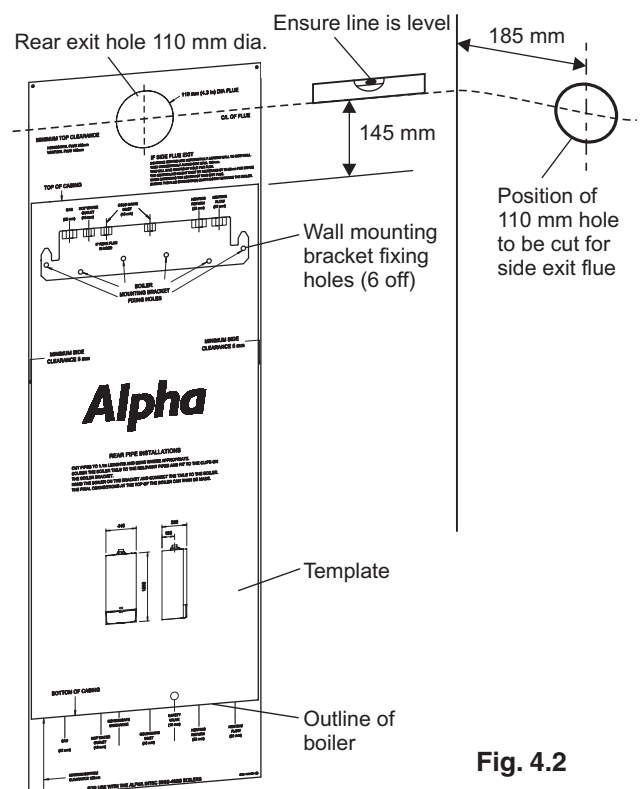

Fig. 4.2
4.3 PREPARE THE WALL - Fig. 4.2
4.4 FIT THE BOILER - Refer to Fig. 4.2